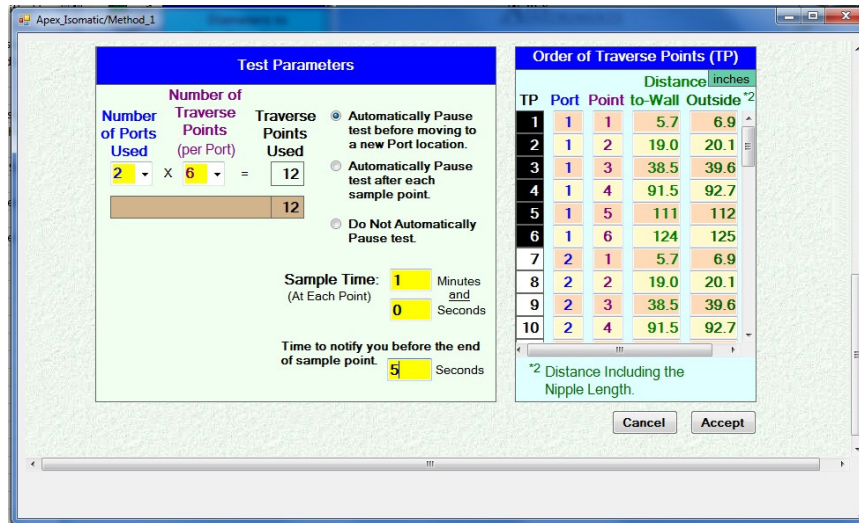

Figure 32 – Bottom Section - Method 1 Menu Screen
- n) Scroll to the bottom of the screen to access the remainder of user input fields this menu (see Figure 32, below.)